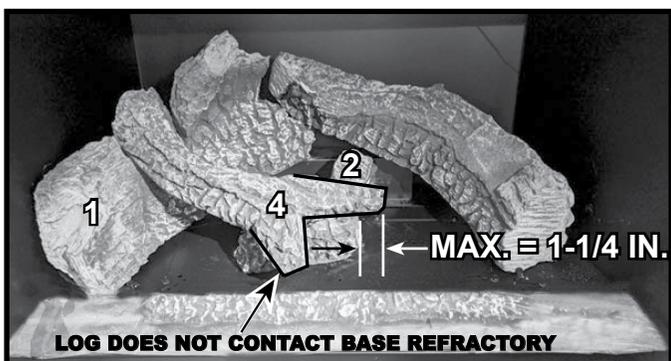

Figure 15 Log #4 Installed
**LOG #4:** Set the non-Y end of Log #4 on the flat spot of Log #1. The end of log #4 will sit flush with the back of Log #1. The Y-end of log #4 will sit on the flat spot of Log #2. The maximum length that Log #4 is allowed to overhang Log #2 is 1-1/4 inches. See Figure 15.